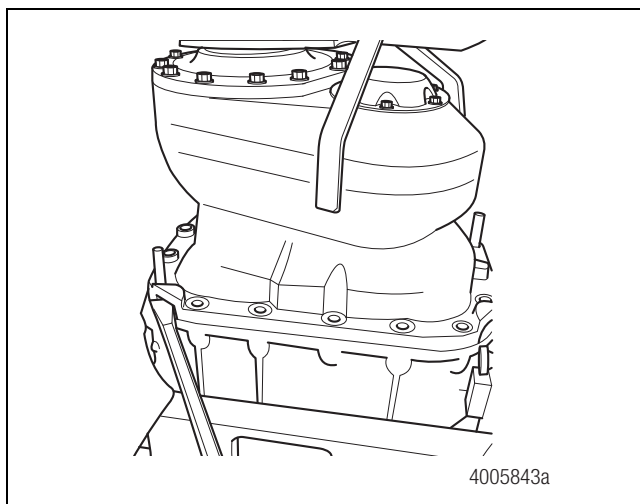

Figure 3.23
12. Use a pry bar in the access points to break the seal between the carrier and axle housing. Figure 3.23.